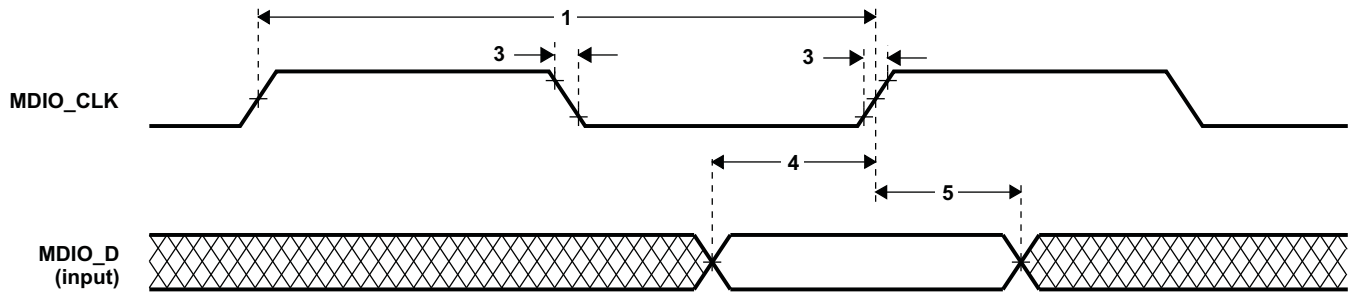
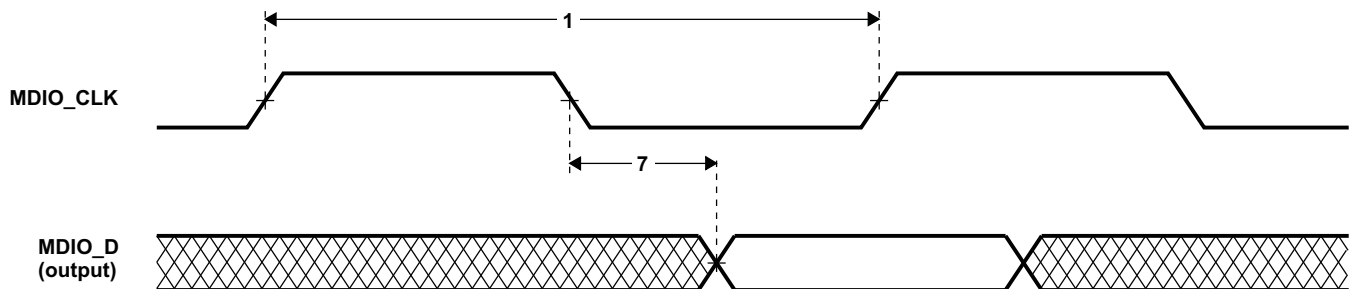

**Figure 6-31. MDIO Input Timing**
**Figure 6-32. MDIO Output Timing**
**Table 6-43. Timing Requirements for MDIO Input (see Figure 6-31 and Figure 6-32)**
**Table 6-44. Switching Characteristics Over Recommended Operating Conditions for MDIO Output (see Figure 6-32)**